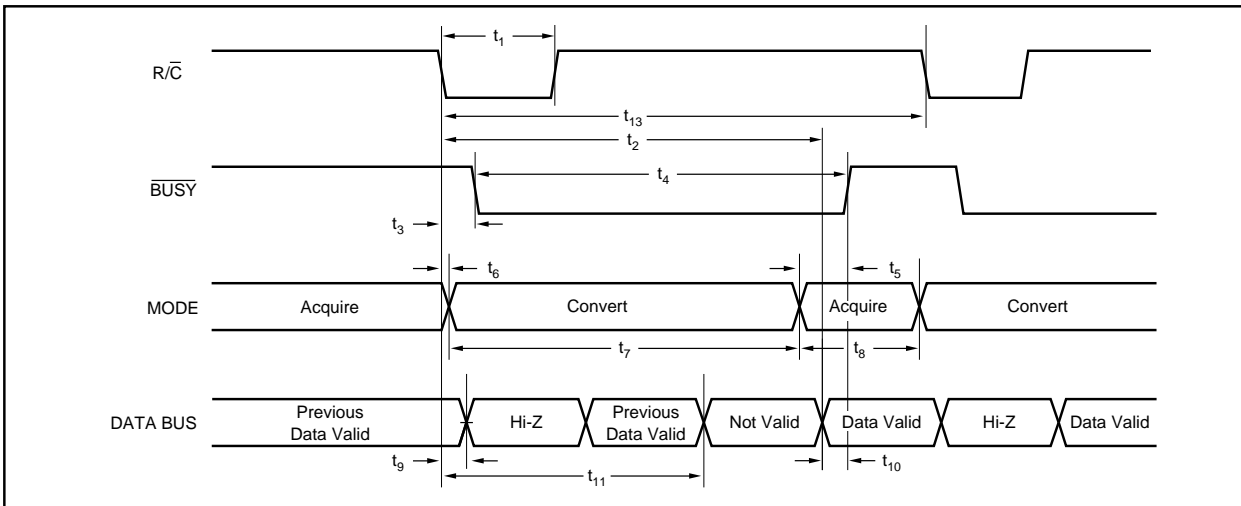

FIGURE 3. Conversion Timing with Outputs Enabled after Conversion (\overline{CS} Tied LOW.)
The ADS7821 will begin tracking the input signal at the end of the conversion. Allowing 10 μ s between convert commands assures accurate acquisition of a new signal. Refer to Table II for a summary of \overline{CS} , $\overline{R/C}$, and \overline{BUSY} states and Figures 3 through 5 for timing diagrams.
NOTE: (1) See Figures 3 and 4 for constraints on data valid from conversion "n-1".
After conversion 'n' is completed and the output registers have been updated, \overline{BUSY} (pin 26) will go HIGH. Valid data from conversion 'n' will be available on D15-D0 (pin 6-13 and 15-22). \overline{BUSY} going HIGH can be used to latch the data. Refer to Table IV and Figures 3 through 5 for timing specifications.
After conversion 'n' has been initiated, valid data from conversion 'n-1' can be read and will be valid up to 5 μ s after the start of conversion 'n'. Do not attempt to read data from 5 μ s after the start of conversion 'n' until \overline{BUSY} (pin 26) goes HIGH; this may result in reading invalid data. Refer to Table IV and Figures 3 through 5 for timing specifications.
The number of control lines can be reduced by tying \overline{CS} LOW while using R/\overline{C} to initiate conversions and activate the output mode of the converter. See Figure 3.